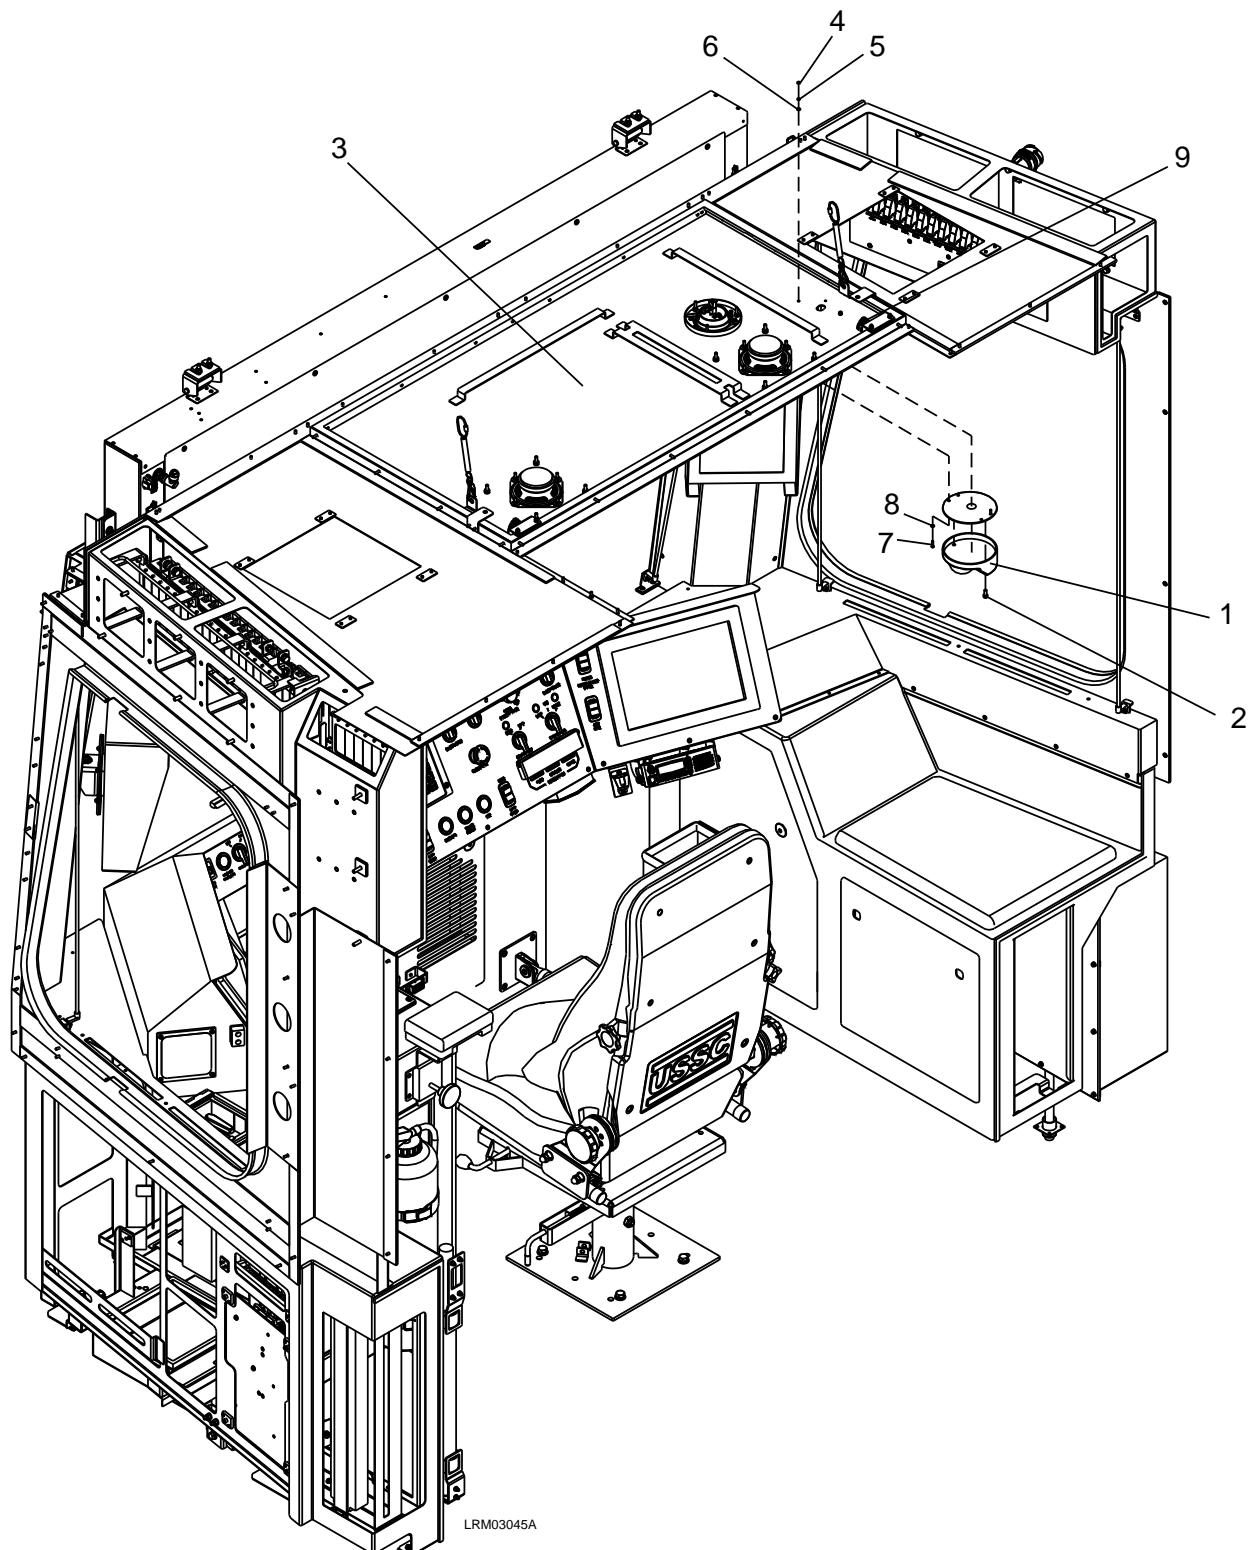

Figure 7-53: Cab Camera
1. Unlock the two locks (9) and lower the cab ceiling panel (3) to access the Cab Camera (1) and disconnect the electrical connector. See Figure 7-53.
2. Remove the two screws (2) from the camera housing.
4. Remove the two M3 nuts (4), M3 lock washers (5), M3 plain washers (6), M3 x 12 screws (7), and M3 plain washers (8).
5. Carefully remove the Cab Camera (1).